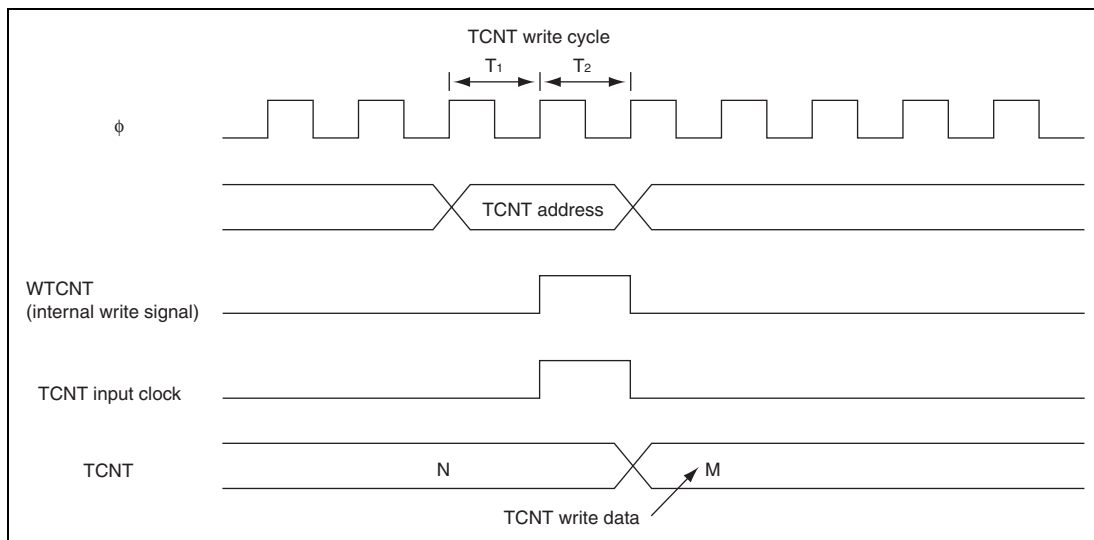

Figure 13.53 Contention between TCNT Write and Increment Operations
2. **Contention between TCNT Write and Increment Operations:** If incrementation is done in T_2 state of a TCNT write cycle, TCNT writing has priority. Figure 13.53 shows the timing in this case.